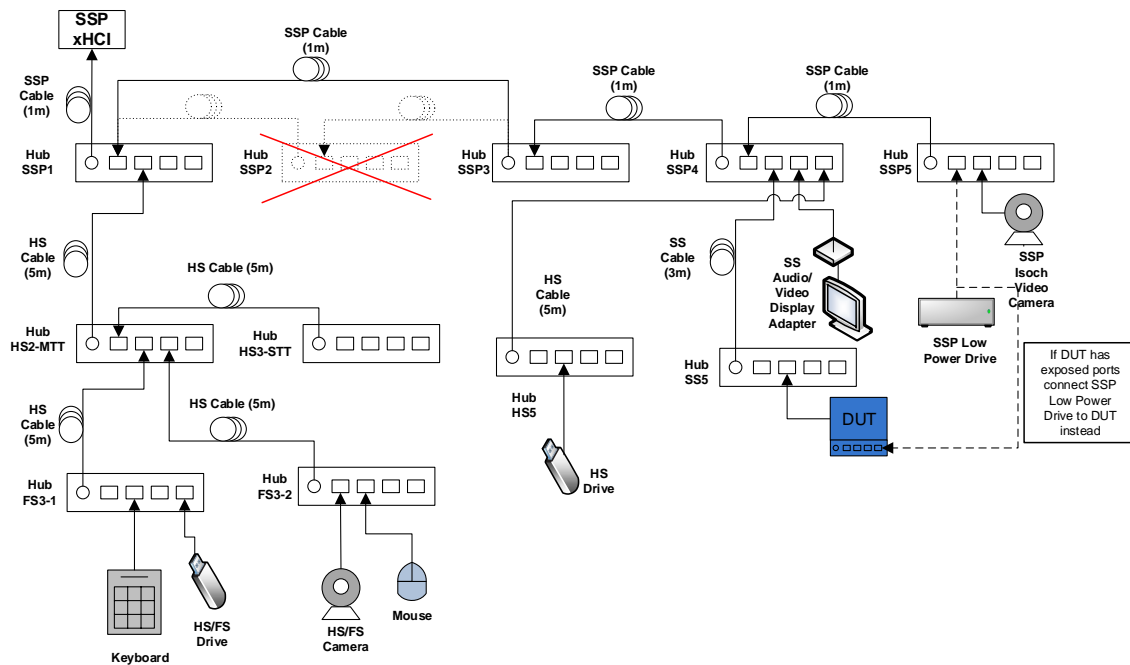
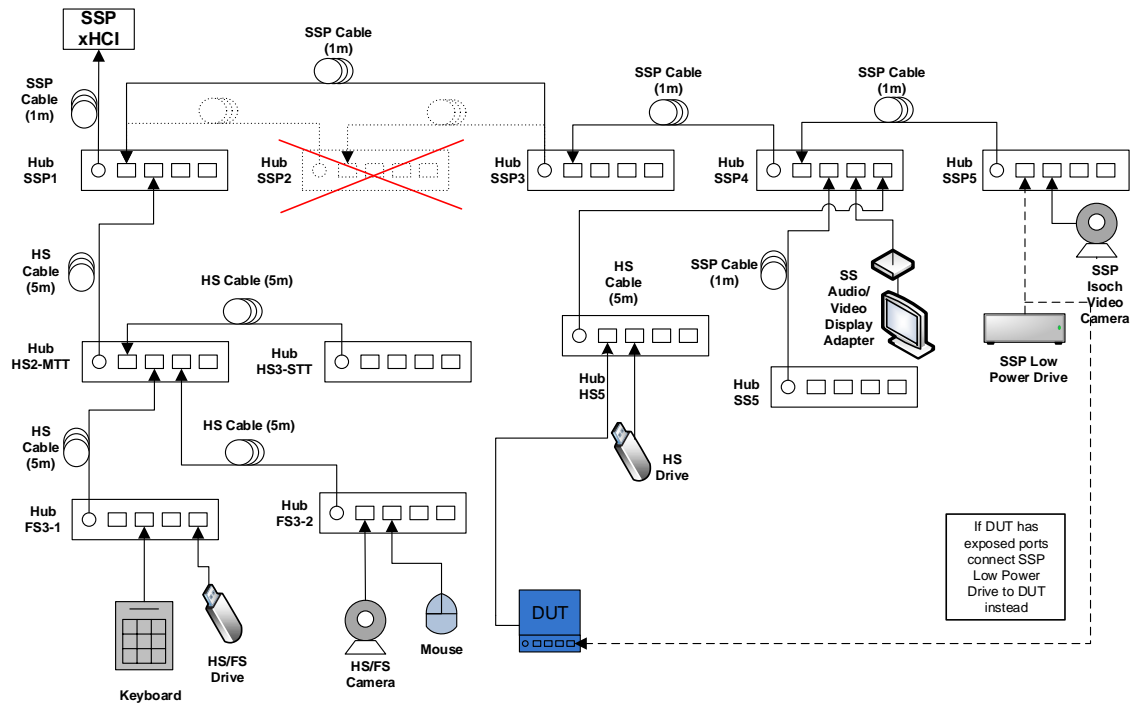
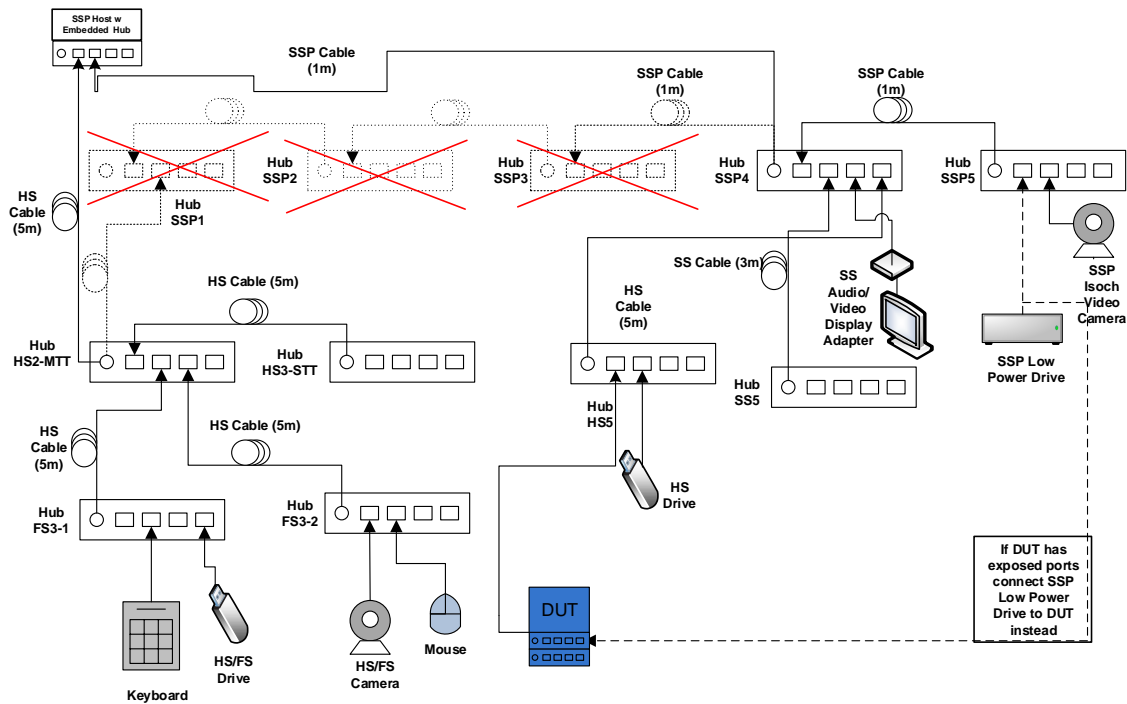

Figure 6-5: Interop Tree with Compound Device - Topology Change 1
Figure 6-9: Interop Tree with Compound Device - Topology Change 2
Figure 6-12: Interop Tree with Compound Device (Dual-Hub) - Embedded Hub - Topology Change 2
- While operating the devices, reattach the Device Under Test to port 4 on Hub SS5 as shown in Figure 6-5 through Figure 6-12.
- While operating the devices, attach the Device Under Test to port 1 on Hub HS5 as shown below in Figure 6-9 through Figure 6-12.